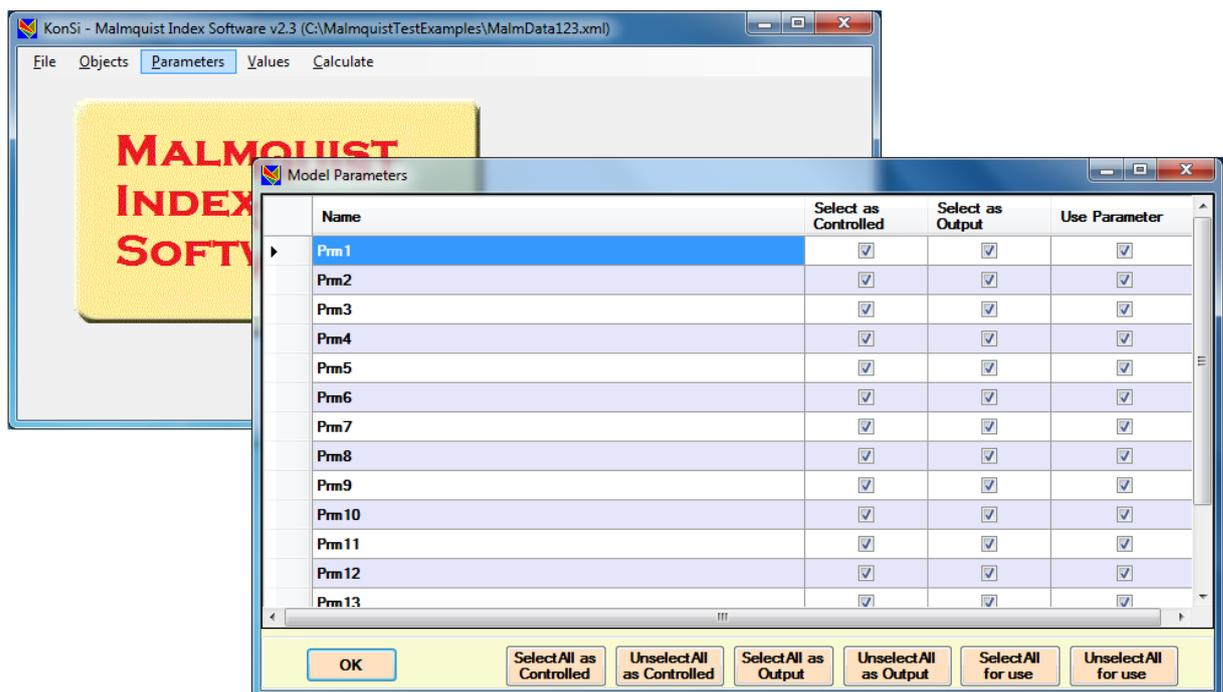

Figure 28 Define DEA model parameters for calculation of Malmquist Index
Step 4. Click Parameters in the menu bar to adjust settings of parameters which you would like to use in DEA models (Figure 28). To adjust parameter settings, do the following steps: